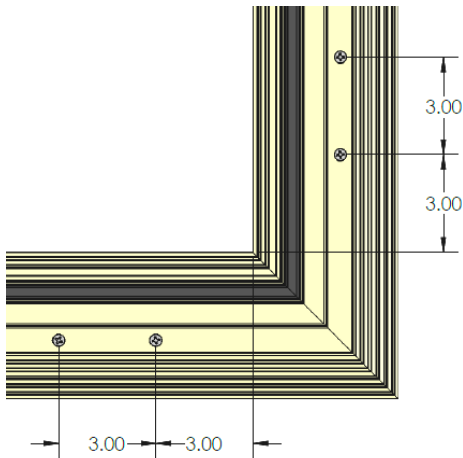
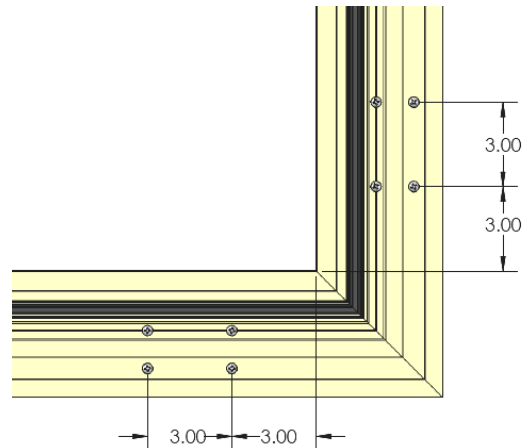

Figure 9:
Figure 10:
D. Head and Sill at Corners: For corner doors sills, 4 anchors screws are to be located 3" from the short side of the miter with 3" spacing (Figure 9). For corner door heads, 8 anchor screws are located 3" from the short side of the miter with 3" spacing (Figure 10).